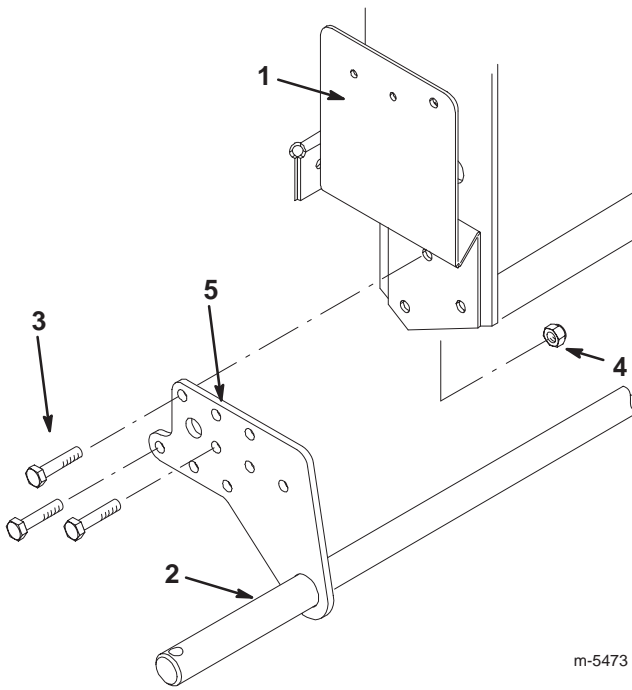

Figure 2
2. Remove the 6 bolts and nuts securing the bottom of the two pulley guards on the sides of the frame (3 bolts and nuts on each side) (Fig. 2).
- Using the 6 bolts (3/8 x 1-3/8 in.) and locknuts (3/8 in.) supplied with the sulky, install the axle as illustrated in Figure 2.